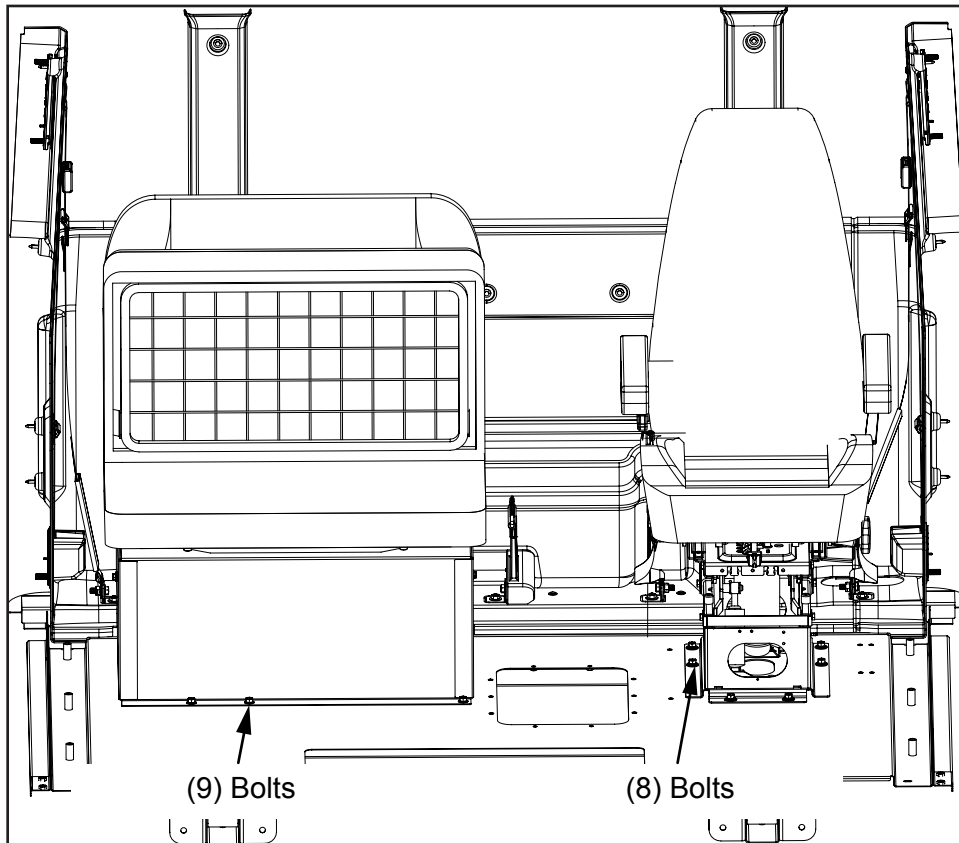

Figure 7
8. Remove and discard (9) 3/8" bolts with washers (3 are external and 6 are located inside the storage bench). Remove (8) 3/8" bolts with washers and discard (see *Figure 7*).